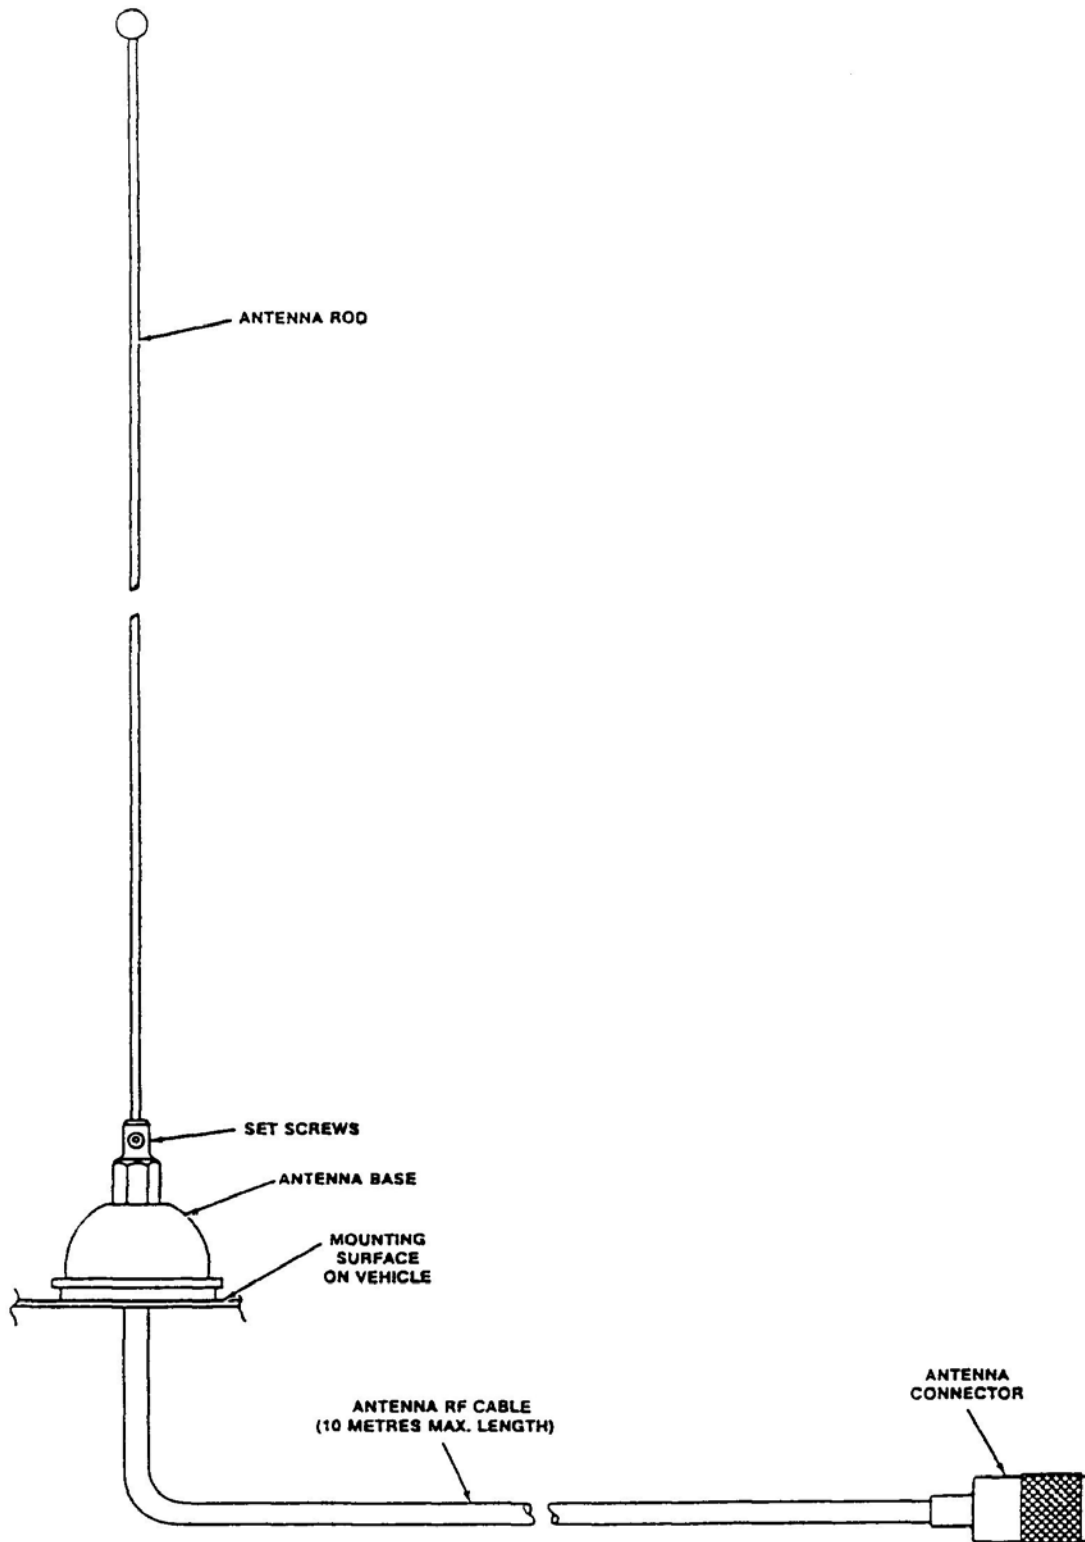

Figure 1-5 Antenna Assembly - General View
- (e) Antenna Assembly, Part Number 861910-1, is supplied complete as a kit which includes the following items: Antenna Base, which includes a mounting pad, together with a pad, braid nut, sleeve and clamp for termination of the antenna RF cable. The Antenna Rod is supplied with an Allen Wrench for adjustment of its set screws. The Antenna RF Cable is a ten-metre length RG58/U coaxial cable terminated at one end by an UHF, male contact, connector which mates with the UHF, female contact, antenna connector located at the right-rear of the transceiver. The antenna may be mounted on any flat surface, roof, cowl, fender or rear deck of a vehicle, however, rooftop mounting is recommended for best performance. A general view of the antenna assembly is given in Figure 1-5.